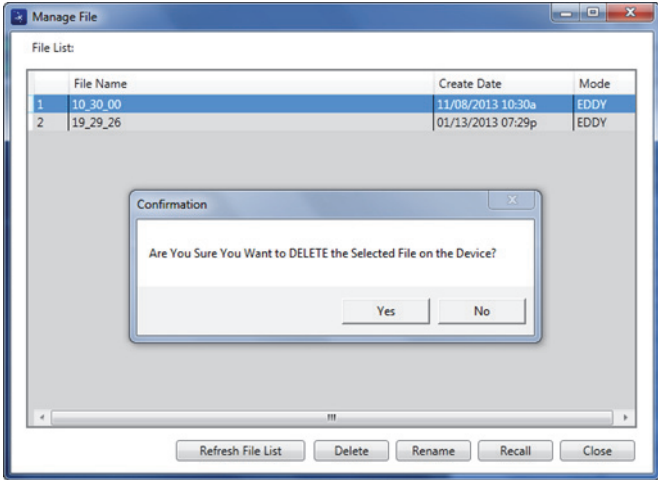

Figure 6-23 The Confirmation dialog box for file deletion
1. In the **Manage File** dialog box, choose the file to be deleted, and then click **Delete**. The **Confirmation** dialog box appears, asking you to confirm that you want to delete the file on the device (see Figure 6-23 on page 327).